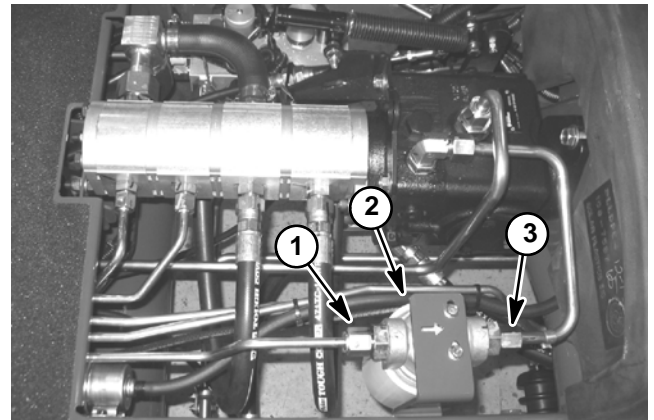

Figure 29
5. Thoroughly clean ends of hydraulic tubes that connect to the oil filter (Fig. 29). Disconnect hydraulic tubes from oil filter adapter. Remove two (2) flange head screws that secure oil filter adapter to frame and remove oil filter and adapter assembly from machine.